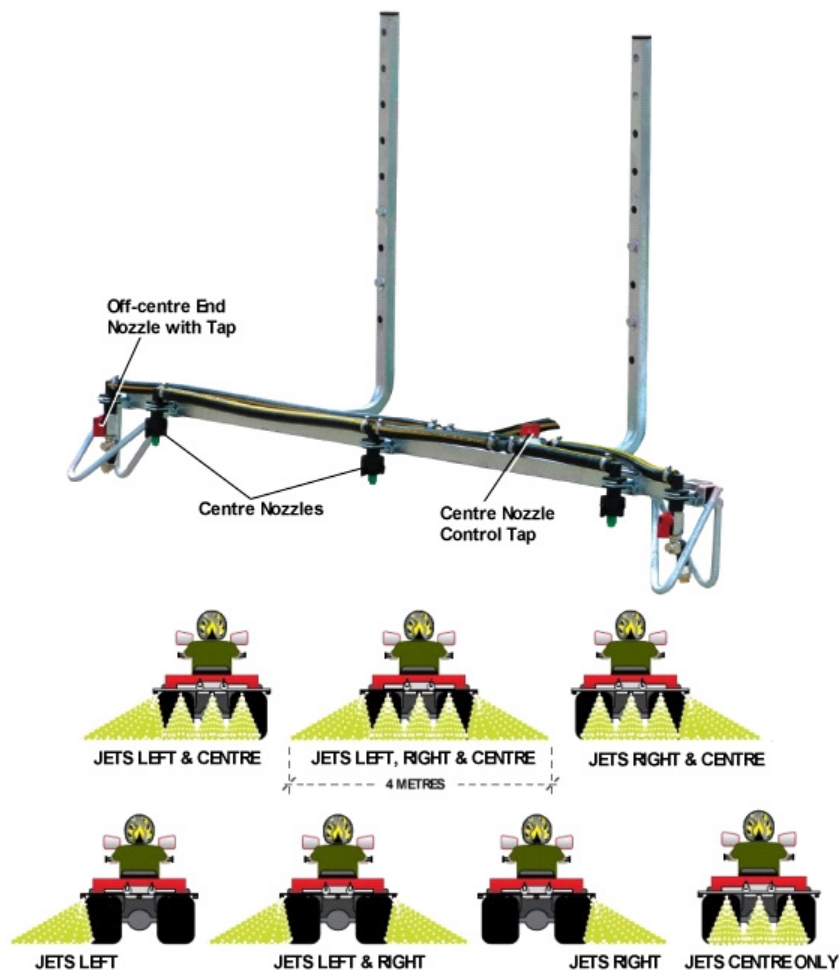

Figure 8 – Spray Boom Details
- Set the required spray selection by opening or closing the individual control valves on the spray nozzle lines, refer to Figure 8.